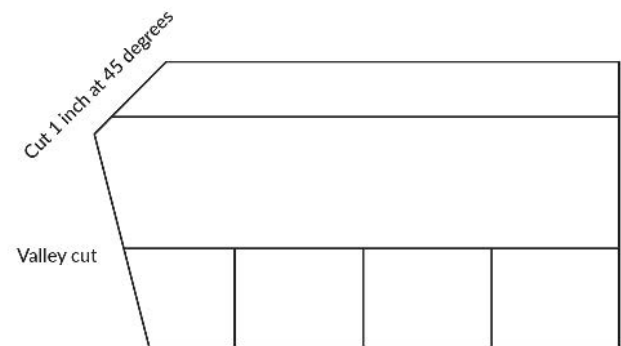

Figure 8
F-Wave recommends the use of an open valley method with a "W" style metal. Alternatively, F-Wave recommends the use of a tile/slate style closed valley method with a "W" style metal. For alternative valley installation methods, please visit fwaverroofing.com and review our latest technical bulletin. It is important to note that all valley flashings should be in place before shingles are installed near the valleys. For application, start with a layer of a minimum of 36 inches (915mm wide smooth-surface, non-granulated, self-adhering waterproofing membrane and apply directly to the roof deck. Next, the valley metal should be installed over self-adhering waterproofing membrane. Cut the top corner of the shingle going into the valley at a 1 inch (25mm) 45° angle. See **Figure 8**.
- Apply the first course of shingles along the eave until it meets the center of the valley. Trim the valley shingle so that it matches the chalk line and also has a 1 inch (25mm) 45° angle cut from the top of the shingle. See **Figure 8**.